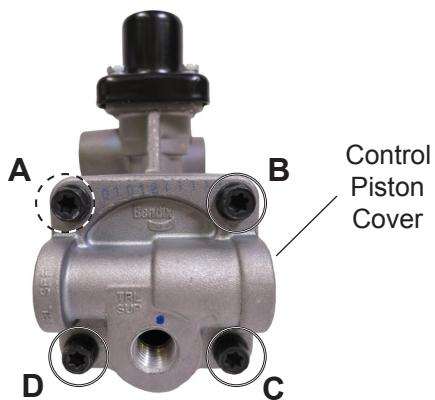

Figure 3 – Control Piston Cover Screws
2. It is necessary to rotate the fitting in the trailer supply port to complete this step. Rotate the fitting counterclockwise only (loosening) no more than 90°. (Refer to Figure 3.)
3. Rotate the cover back into position and install the three screws. Torque all four screws in a crossing pattern to 100 in-lbs. (A, C, D then B). (Refer to Figure 3.)